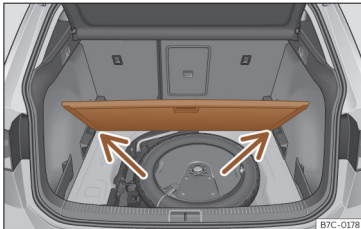

Fig. 111 Variable luggage compartment floor: inclined position.
- Rest the floor on its housings >>> **Fig. 111** (arrows).